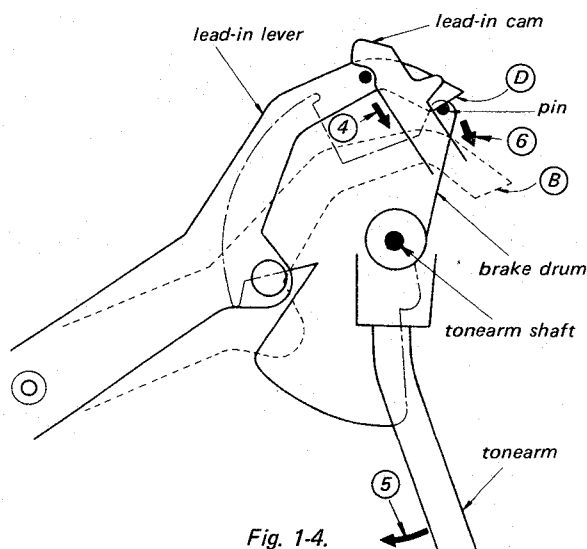

Fig. 1-4.
5. At this time, the lead-in lever moves in the direction of arrow ④, guided by the lead-in cam which moves together with the main lever. The tip ④ of the lead-in lever moves to position ②, pushing against a pin on the brake drum in the direction of arrow ⑥. And since this brake drum moves in unison with the tonearm, the tonearm will move across (horizontal movement) in the direction of arrow ⑤. (See Fig. 1-4.)